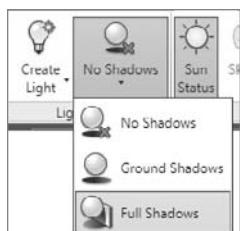

FIGURE 17.16 Choosing the Full Shadows option
1. In the Lights panel, click the down arrow under the No Shadows icon and choose Full Shadows from the fly-out menu, as shown in Figure 17.16.